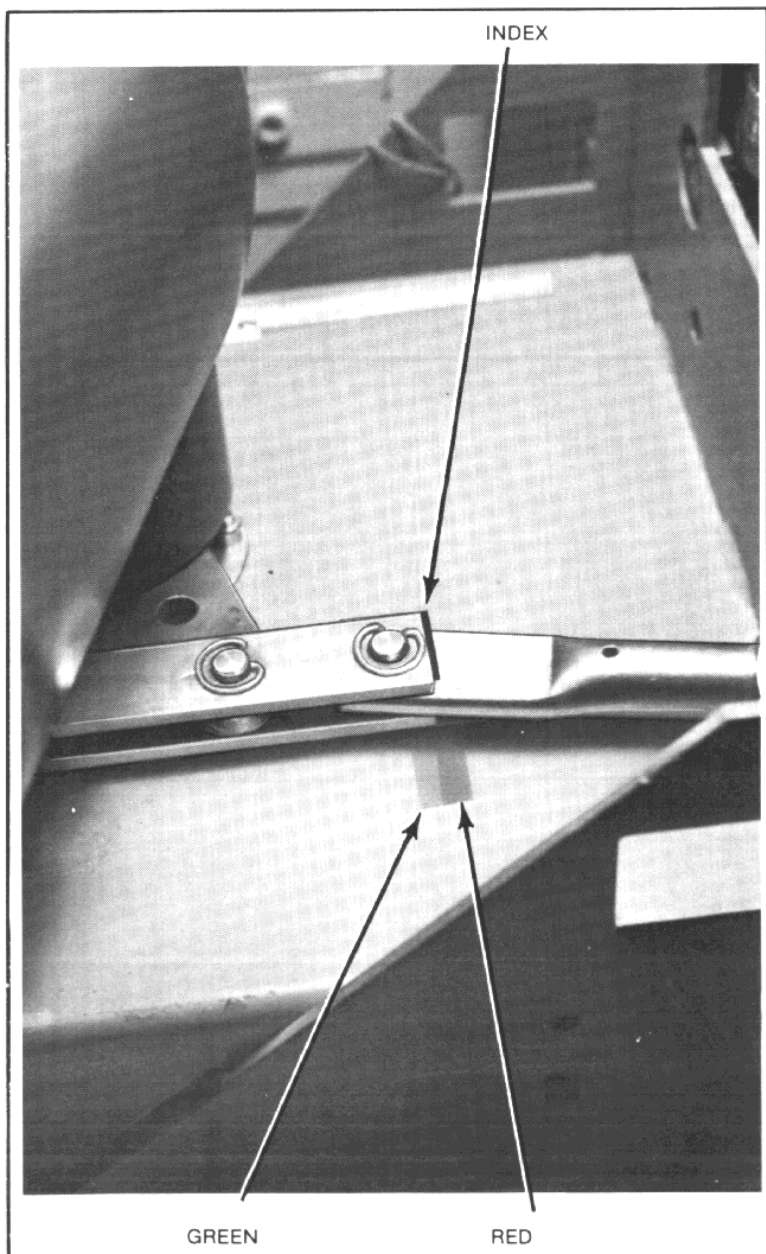

Figure 14
The total life of an interrupter is determined by a combination of interrupting current and number of operations, and can be measured through contact erosion. See (Figure 24) that depicts this phenomena graphically. Contact erosion becomes most significant after the breaker has reached 75% of its predicted life. This can be estimated by using the graph. A red and green indicator is provided in the high voltage compartment for determining whether or not the interrupters should be replaced. (See Figure 14)
8. Attach a bell-set, ohmmeter or 3-phase LED test set across each interrupter. Continue to slow close the breaker through the manual charging handle and check contact "make" point on each interrupter. As long as the end of the connecting link (index) is not in the red zone (Figure 14) the contact condition is considered good. When the index area (end of link) is at the red/green transition line, the bottle(s) should be replaced.